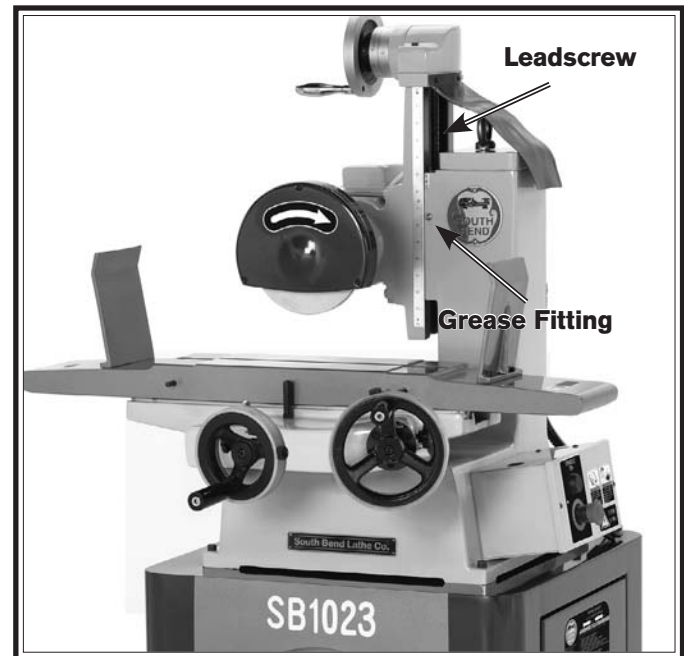

Figure 37. Upper column leadscrew and grease fitting.
2. Clean the upper column leadscrew section with mineral spirits, dry with a rag, and relubricate with any standard machine or multipurpose grade grease (**Figure 37**).
3. Wipe the column grease fitting clean (see **Figure 37**) and pump the fitting with two or three pumps of grease. Wipe off any grease that bleeds through the seams.